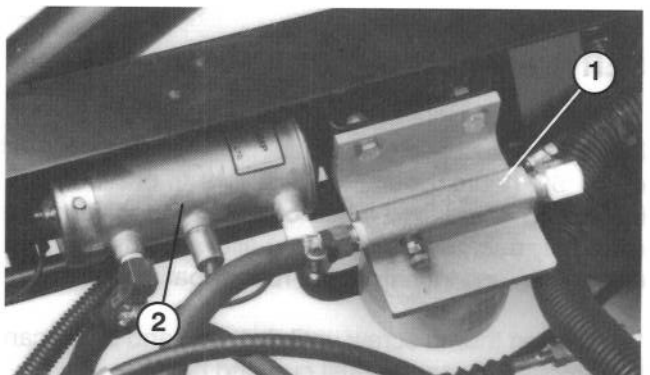

Figure 38
FUEL SYSTEM (Fig. 38–40)
2. Fuel filter/water separator is mounted on inner side of right frame rail (Fig. 38).
- Fuel pump is mounted on inner side of right frame rail (Fig. 38).